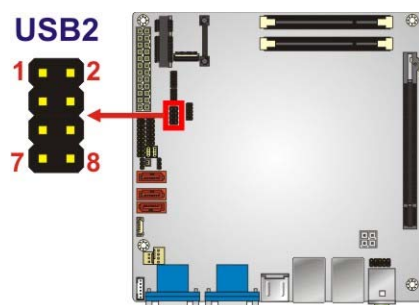

Figure 3-23: USB Connector Locations
- CN Location:** See Figure 3-23